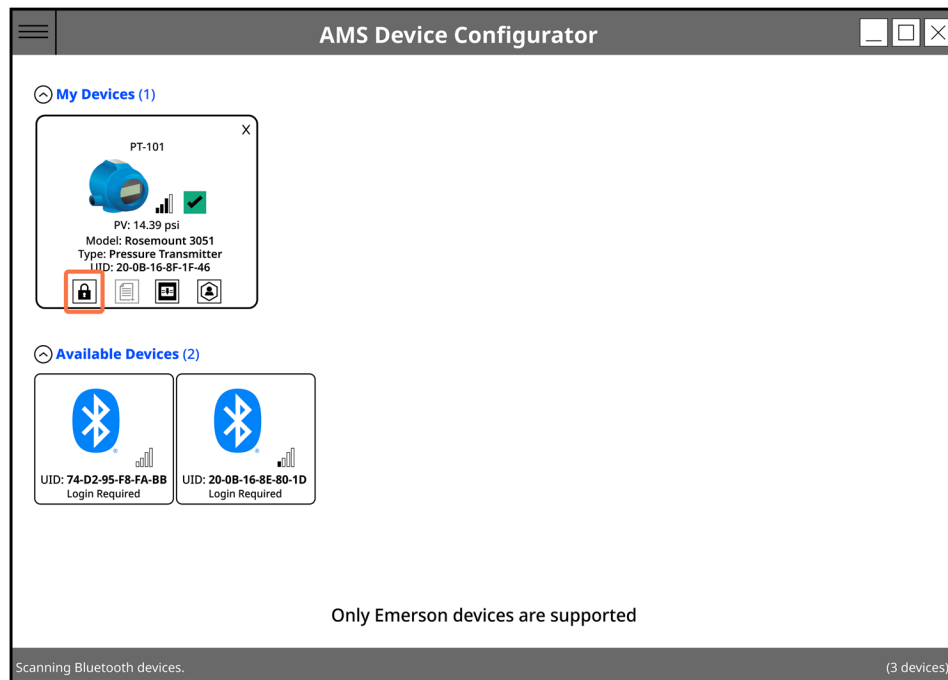

Figure 5. Bluetooth Security menu location on AMS Device Configurator for Windows
- a. From the main AMS Device Configurator screen, select the lock icon on the desired field device tile (Figure 5)
- a. From the main AMS Device Configurator screen, select the lock icon on the device tile (Figure 5)